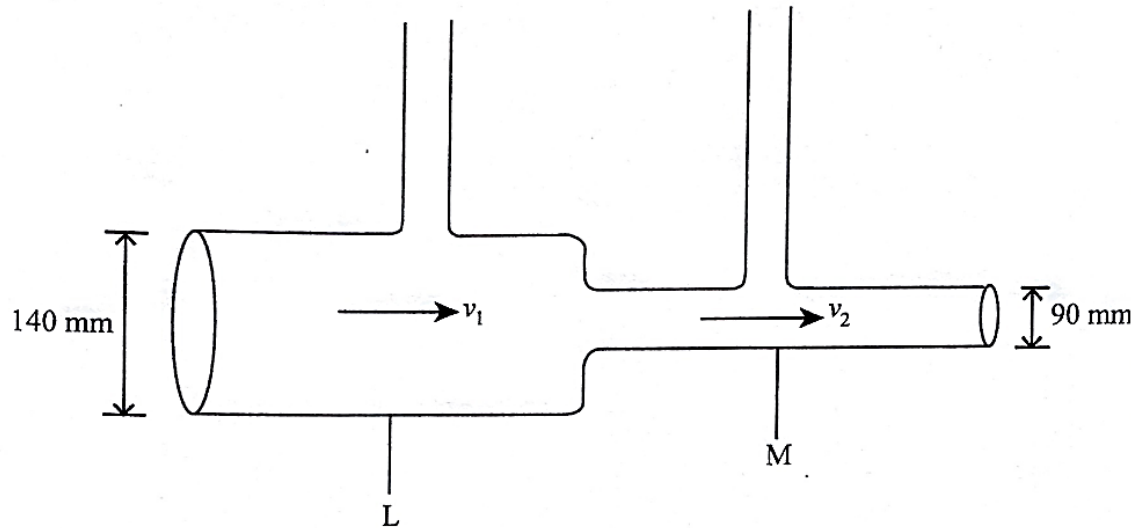

Fig. 5.1
- 4 (b) Fig. 5.1 shows a horizontal pipe with a fluid, of density ρ , in motion. Part L has a diameter of 140 mm and part M a diameter of 90 mm. The fluid has a velocity of v_1 and v_2 at L and M respectively.
- (i) On Fig. 5.1 show the vertical height of the fluid at L and M.